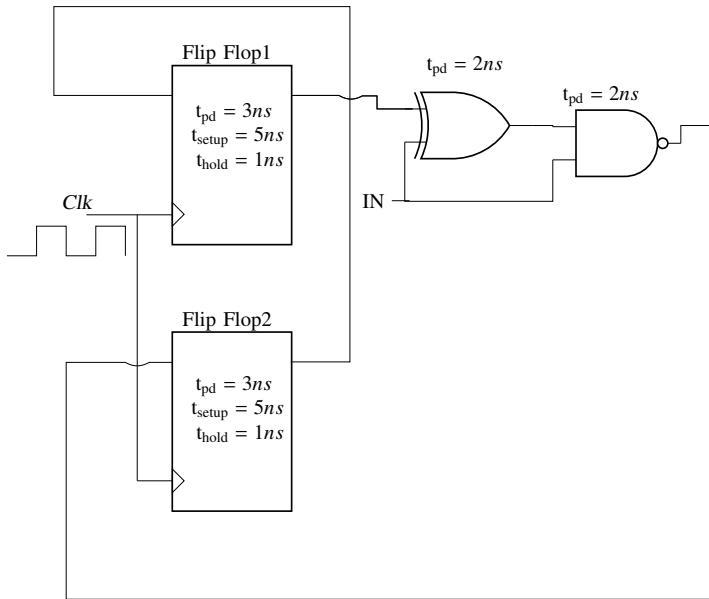

Fig. 5.23
23. For the components in the sequential circuit shown in Fig. 5.23 below, t_{pd} is the propagation delay, t_{setup} is the setup time, and t_{hold} is the hold time. The maximum clock frequency (rounded off to the nearest integer) at which the given circuit can operate reliably is _____ MHZ. (GATE EC2020 – 50)